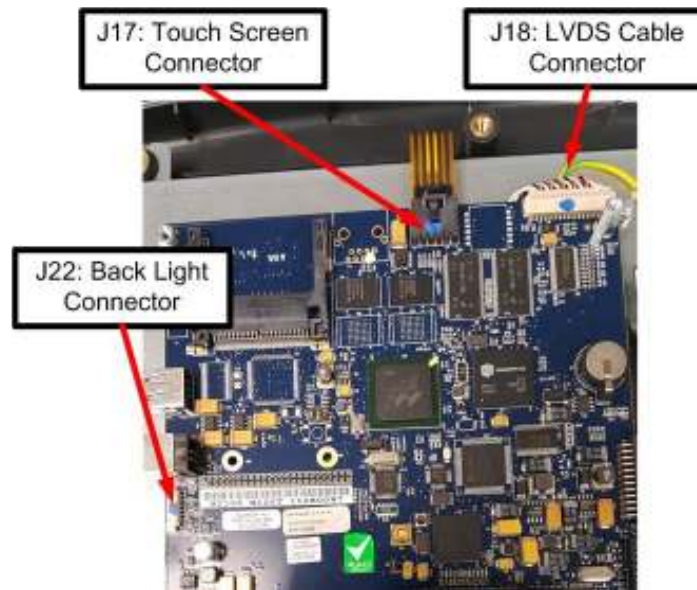

Figure 4- Key Connectors
- 7) Install the new LVDS Cable (AK65-00061-0002) into location J18 and adjacent grounding location (per Figure 4).
- 8) Connect the new backlight cable (AK70-00105-0000) to J22 (per Figure 4).
- 11) Reinstall the touchscreen using the screws removed in step 4. Reconnect touchscreen cable to connector J17 (see figure 4).